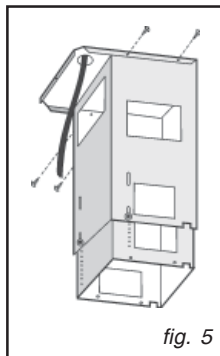
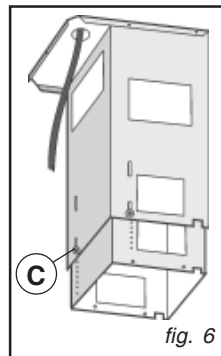
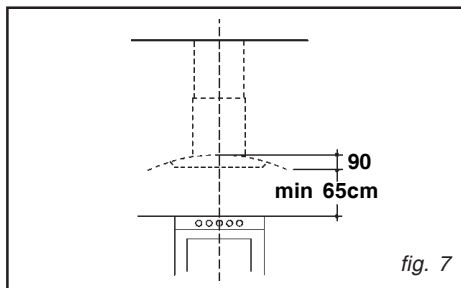

fig. 5
fig. 6
fig. 7
- Secure the telescopic structure to the bracket using 4 screws (provided), passing the air exhaust pipe inside the telescopic structure and running the power cable through the hole in the bracket (Fig. 5).
Adjust the height of the telescopic structure using the 4 retaining screws C (Fig. 6) bearing in mind that the height of the hood is 86 mm and that the distance of the hood from the hob must be at least 650 mm (Fig.7).
- Secure the telescopic structure to the bracket using 4 screws (provided), running the power cable through the hole in the bracket (Fig.5). Adjust the height of the telescopic structure using the 4 retaining screws C (Fig. 6) bearing in mind that the height of the hood is 90 mm and that the distance of the hood from the hob must be at least 650 mm (Fig.7).